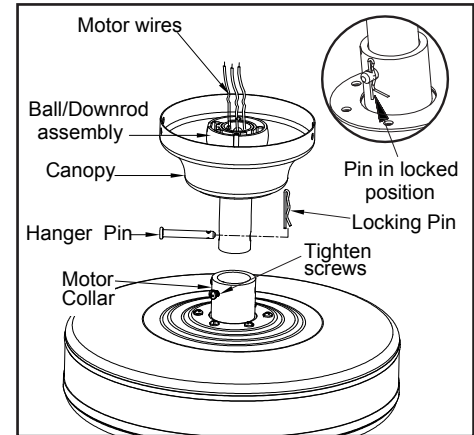

Figure 6
5. Make sure the slot openings are on top. Route the wires through the canopy and then through the ball/downrod assembly. (Figure 6)
downrod with the holes in the collar on top of the motor housing. (Figure 6)
Carefully insert the hanger pin through the holes in the collar and downrod. Be careful not to jam the hanger pin against the wiring inside the downrod. Insert the locking pin through the hole near the end of the bolt until it snaps into its locked position, as noted in the circle inset of Figure 6.
The fan shipped from the factory with the reversing switch positioned to circulate air downward. If airflow is desired in the opposite direction, turn your fan off and wait for the blades to stop turning, then slide the reversing switch (located on the switch housing, refer to figure 6 on page 4) to opposite position, and turn fan on again. The fan blades will turn in the opposite direction and reverse airflow.